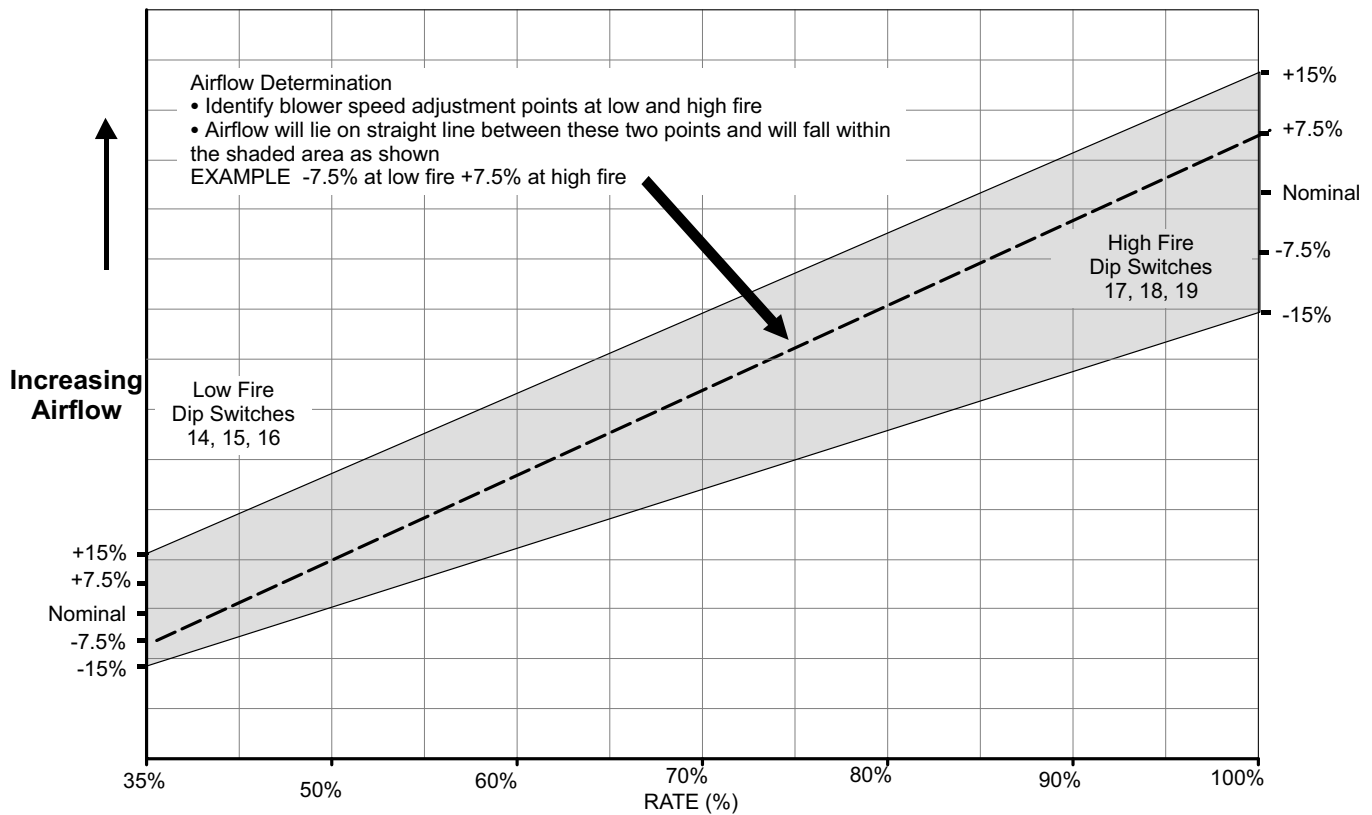

FIGURE 6
-- Switches 14 through 19 are used to select heating mode blower motor speeds. These switches are factory set at the OFF position which provides 100 % of normal speed during HIGH HEAT demand, 70% of normal speed during MID-RANGE HEAT demand and 40% of normal speed during LOW HEAT demand. Switches 14, 15 and 16 are used to adjust the LOW FIRE blower motor speed. Switches 17, 18 and 19 are used to adjust the HIGH FIRE blower motor speed. Figure 6 and tables 9 and 10 provides the heating mode blower speeds that will result from different switch settings. Figure 6 indicates the effect the DIP switch settings (tables 20 & 21 above) have upon the heating airflow at various furnace firing rates.